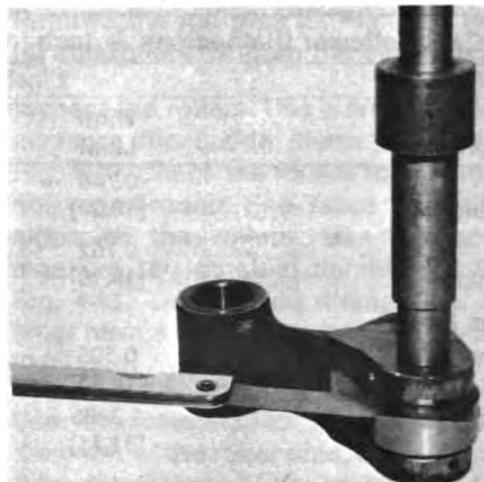

Fig. 4-14 (N10406). Install The Roller And Roller Pin.
1. Hold a 0.006 Inch [0.15 mm] feeler gauge between the lever and roller. Install the roller pin through the lever and roller, Fig. 4-14. Install the roll pins into the lever and roller pin.